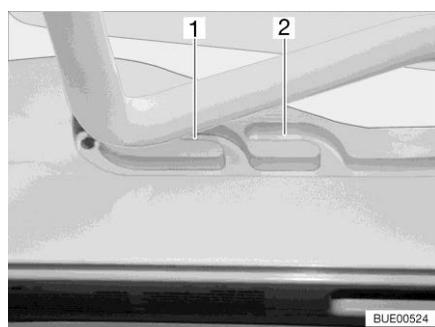
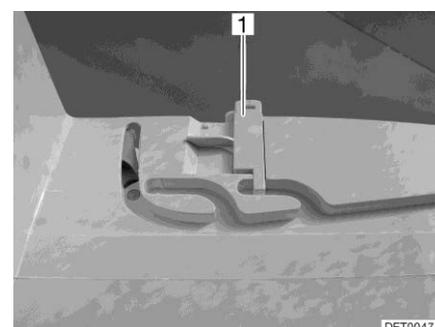

Fig. 66 Guide (ventilation position)
Fig. 67 Lock (ventilation position)
The Heki skylight can be put in two ventilation positions: Bad weather position (Fig. 66,1) and central position (Fig. 66,2). Depending on the model, the skylight can be locked in the central position with both left and right latches (Fig. 67,1) on the skylight frame.
- Push the bar slightly upwards and into the selected guide (Fig. 66,1 or 2) and lock if necessary.